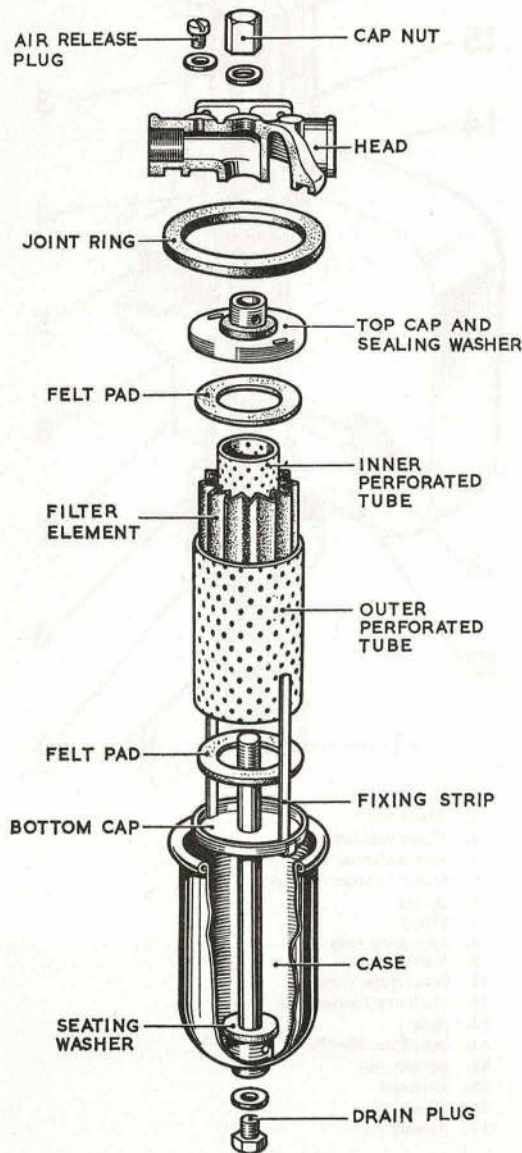

Fig. 5. MAIN FUEL FILTER
11. Fuel Filters. The main fuel filter (Fig. 5) is fitted into the fuel pipeline between the main tank and the pump, and the engine filter in the pipeline from the gravity tank to the carburettor. A third filter is fitted on the inlet side of the valve unit of the thermostatic control.